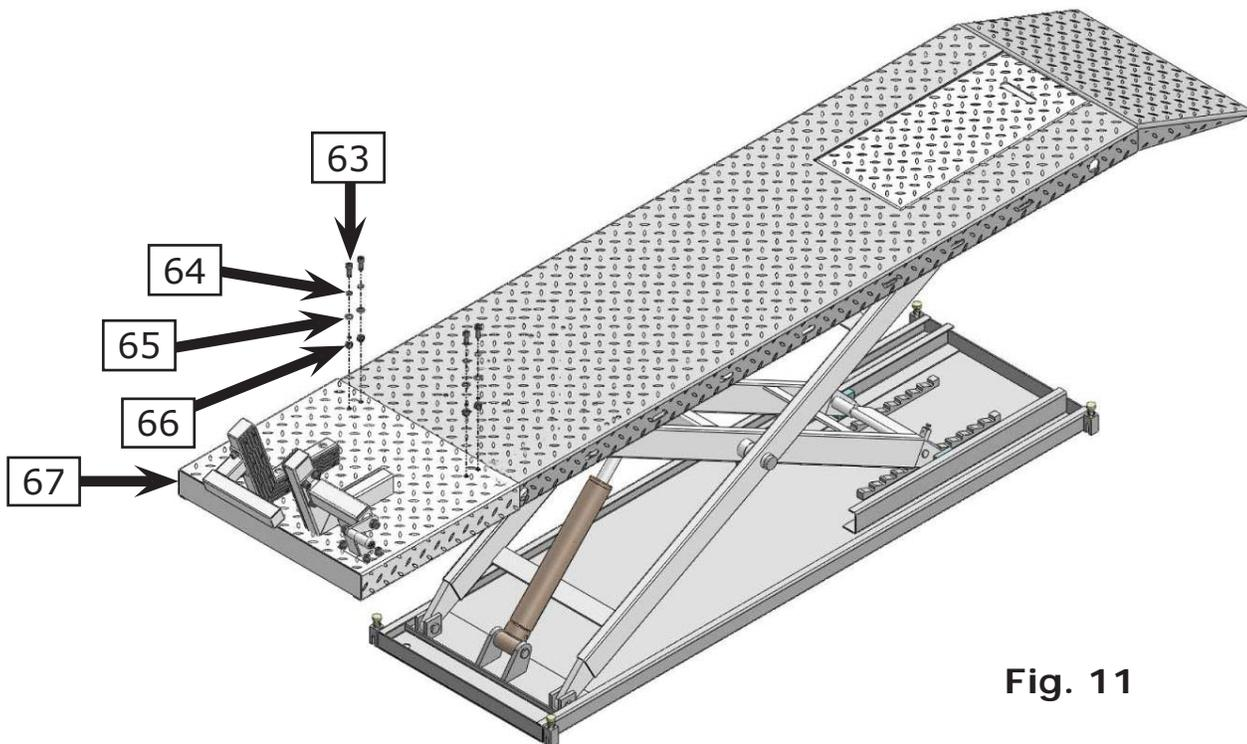

Fig. 11
G. Install optional chopper extension kit. (See Fig 11)